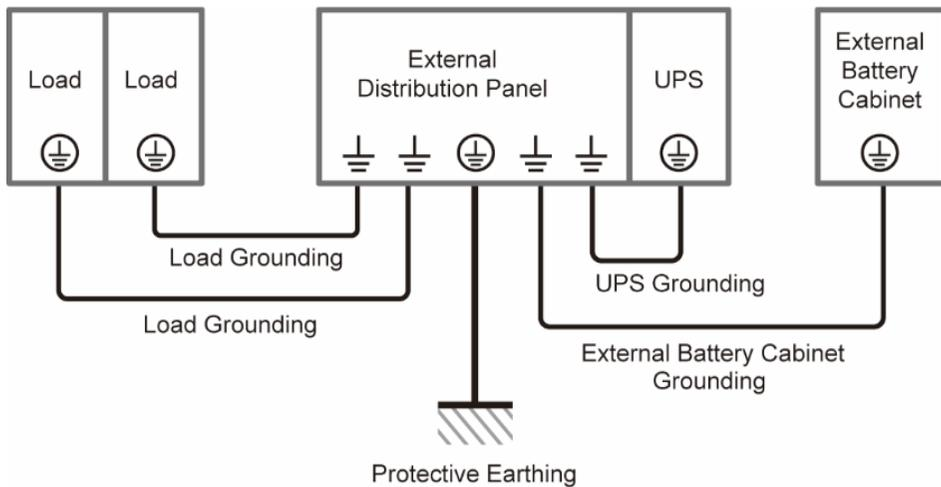
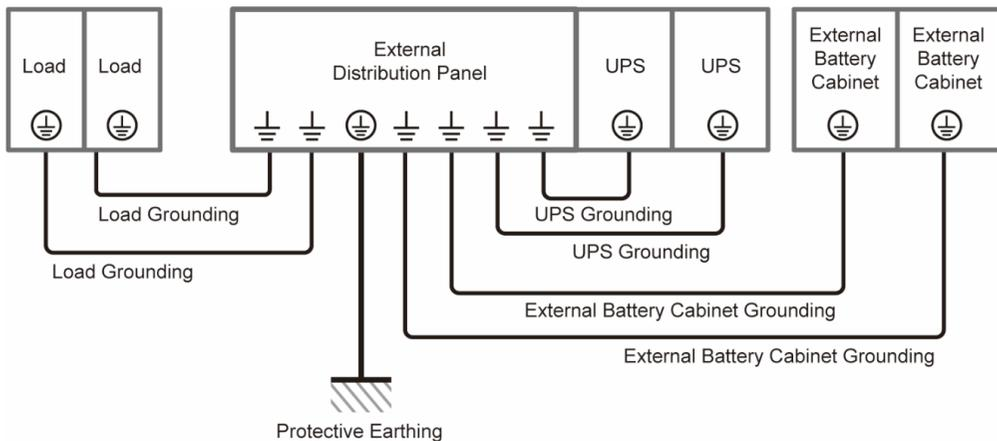

Figure 5-10: Grounding Diagram_ Single Unit
Figure 5-13: Grounding Diagram_ Parallel Units
Refer to *Figure 5-10* to ground the UPS, external battery cabinet(s) and connected critical loads.
- For the external battery cabinet's grounding information, please refer to **Figure 5-10** and **Figure 5-13**.